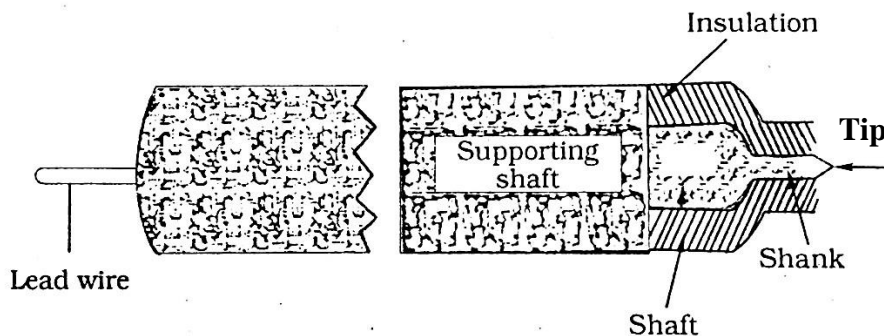

Figure 7: Metal microelectrode
- The metal microelectrode is essentially a fine needle of a strong metal is insulated with an appropriate insulator up to its tip, as shown in figure 7.